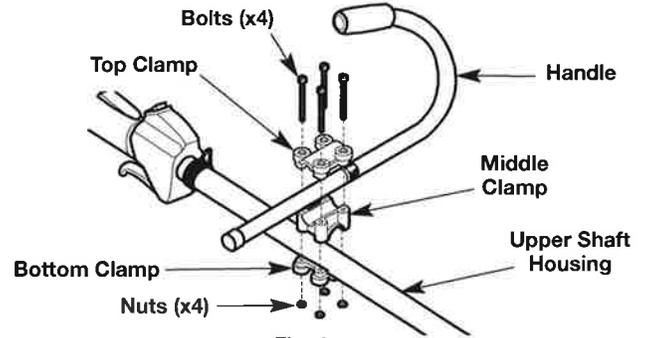

Fig. 1
1. Place the handle between the top clamp and middle clamp (Fig. 1). If necessary, rotate or flip the middle clamp until the holes in the top clamp and middle clamp align.
2. Place the clamps and handle over the upper shaft housing and onto the bottom clamp (Fig. 1).
**NOTE:** Make sure the curved portion of the handle is on the operator's left (Fig. 1).
3. While holding the pieces together, insert the bolts (x4) into the aligned holes (Fig. 1).
4. Screw a nut onto the end of a bolt, but only slightly. Push the nut into the hexagonal recess on the bottom clamp. Hold the nut in place with a finger to keep it in the recess. Tighten the bolt with a Phillips screwdriver, but do not tighten it completely (Fig. 1). Repeat this step for each nut and bolt.
1. Loosen the bolts (x4) slightly with a Phillips screwdriver (Fig. 1).